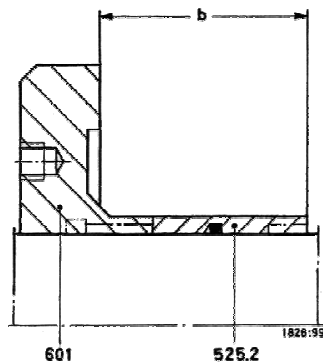

Figure 40 – Rotor adjustment, distance “b”
Then measure distance “b” from the contact face of the balance disc (601), dismantled, to the end of the spacer (525.2) (Fig. 40).